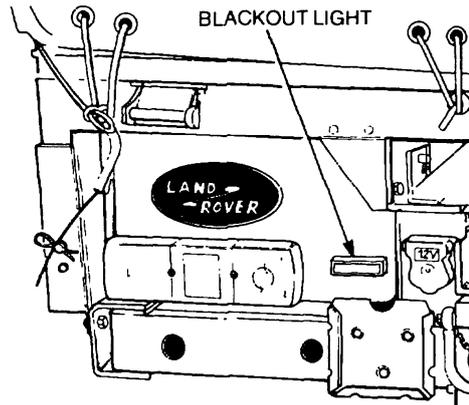

Figure 187 Blackout Stop/Tail Light Removal
- c. Remove the two nuts and washers securing the light unit to the rear cross-member (Figure 187).